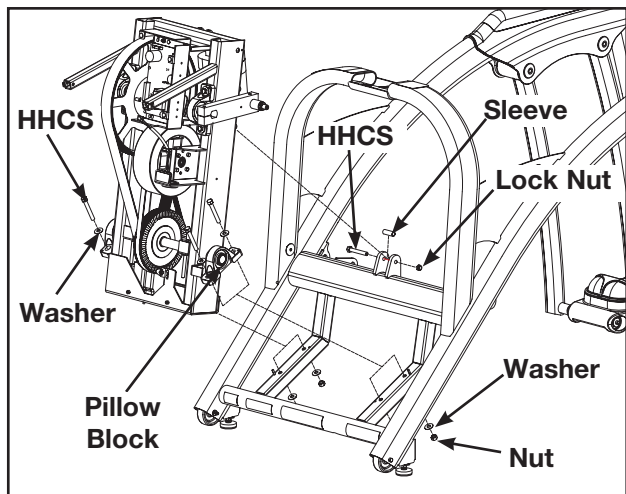

Figure 12
- A. Using a 9/16" socket and open end wrench, remove HHCS (Hex Head Cap Screw), sleeve and locknut securing the elevation motor to frame. See Figure 12.
- B. Using a 9/16" socket and open end wrench, remove four washers and nuts from HHCS holding the two pillow blocks of the drive frame assembly to the main frame. See Figure 12
- C. Carefully lift drive frame assembly off main frame. See Figure 12. **NOTE:** Two persons is strongly recommended to do this procedure.
- B. Using a 9/16" socket and open end wrench, attach four washers and nuts (removed in step 20B) to HHCS and tighten securing two drive frame assembly pillow blocks to main frame. See Figure 12.
- C. Using a 9/16" socket and open end wrench, attach HHCS, sleeve and locknut (removed in step 20A) and tighten securing elevation motor to frame. See Figure 12.